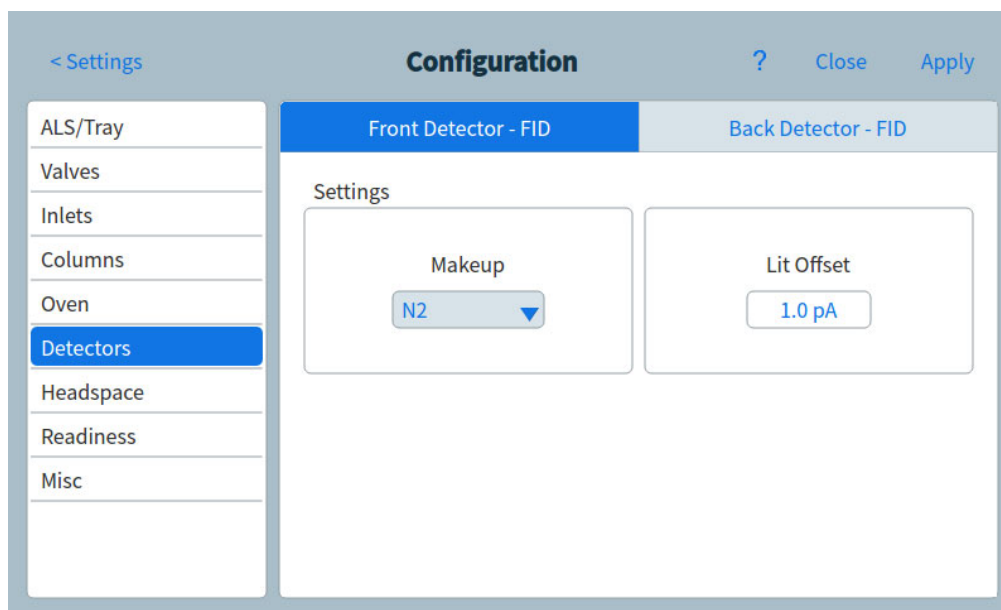

Figure 69. Detectors page
- 1 Select **Settings > Configuration > Detectors**, then select the tab for the detector to configure. See **Figure 69**.